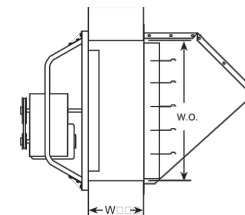

Figure 5 — Direct to Wall Installation
3. Figure 5 shows the direct to wall installation.